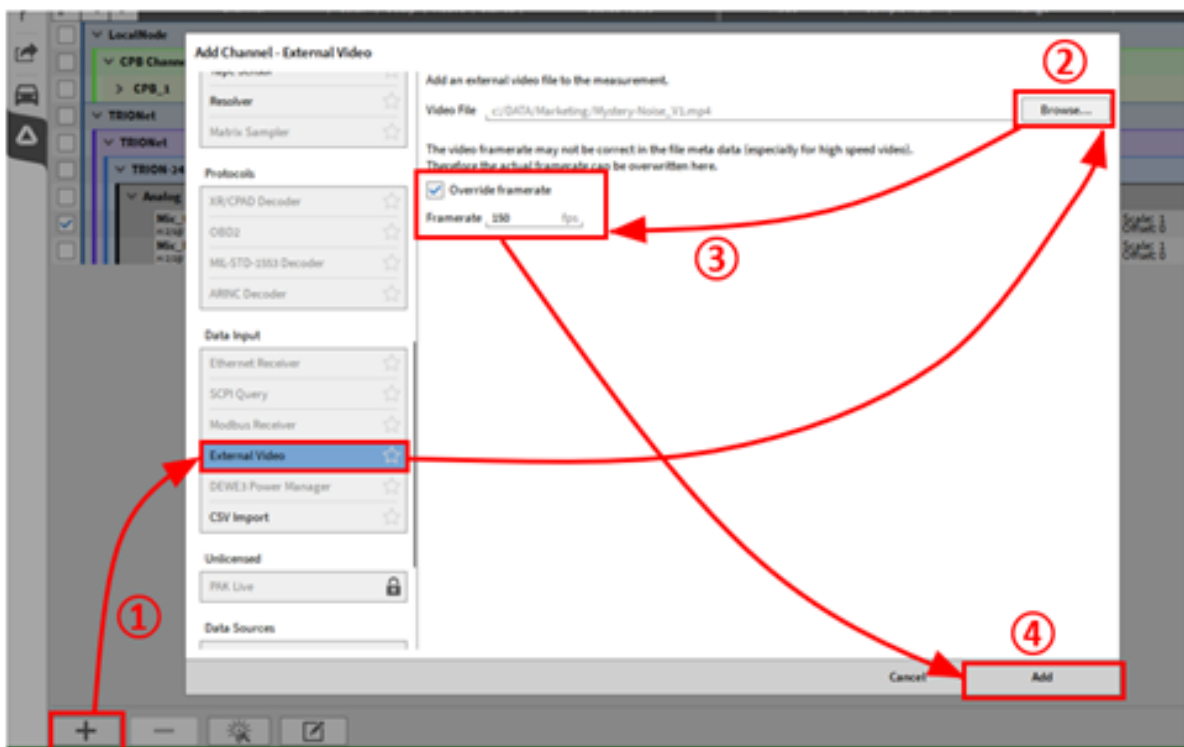

Fig. 7.167: Procedure to load an external video
- Go to the Channel List, press the + Button and select *External Video* (see ① in Fig. 7.167)
- Click on *Browse...* to select the video file (see ② in Fig. 7.167)
- Enter the native recording frame rate of the video (see ③ in Fig. 7.167)
- Press *Add* to create a new video channel (see ④ in Fig. 7.167)